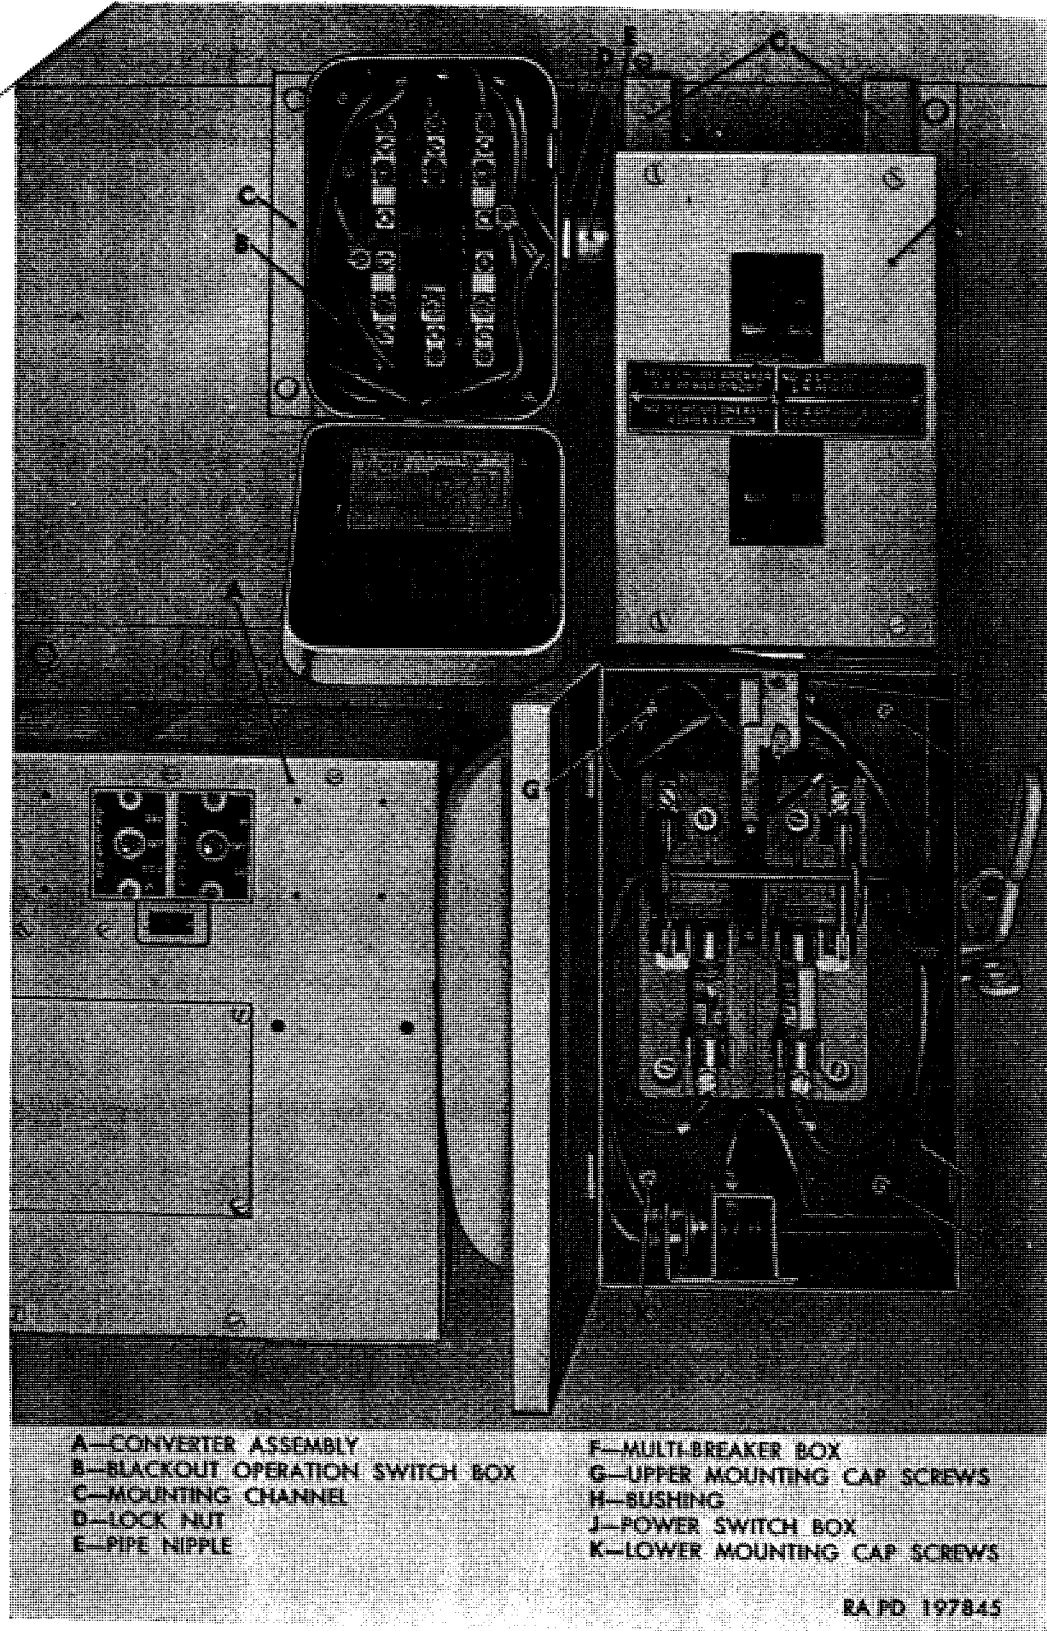

Figure 388. Switch boxes installed.
(fig. 388)
a. General. External power receptacle (fig. 69) for 115-volt alternating current is mounted in upper right front corner of shop van body. Receptacle cables pass through the body wall into the power switch box (J, fig. 388).
- (1) From inside body, open door of power switch box (J, fig. 388). Loosen screws securing receptacle cables in switch terminals (two upper terminals). Pull cable ends out of terminals.
- (2) From outside body, remove four screws securing receptacle housing to body. Remove receptacle from body, withdrawing cables from switch box as receptacle is removed.
- (1) Place gasket over receptacle cables, then thread cables through opening in body and into power switch box (J, fig. 388). Secure receptacle to body with four screws, with dust cap chain clip under head of one screw. Tighten screws.
- (2) Insert cable ends into switch terminals, matching numbers on cables with numbers on cables connected to lower termi-